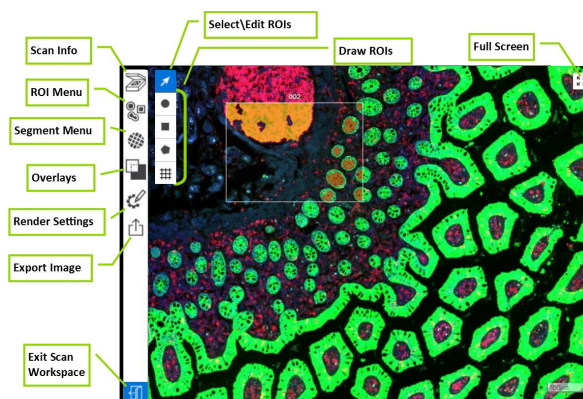

Figure 44: GeoMx DSP Scan Workspace with Exit button at lower left
1. Select the **Exit** button in the lower left of the Scan Workspace toolbar (see Figure 44) when ROI selection is complete.